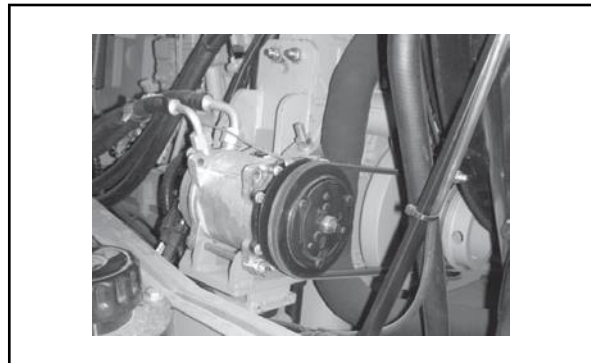

Figure.6
2.Check if fixed bolts of compressor are loosed regularly, if belt of compressor is loosed; refer to figure 6.